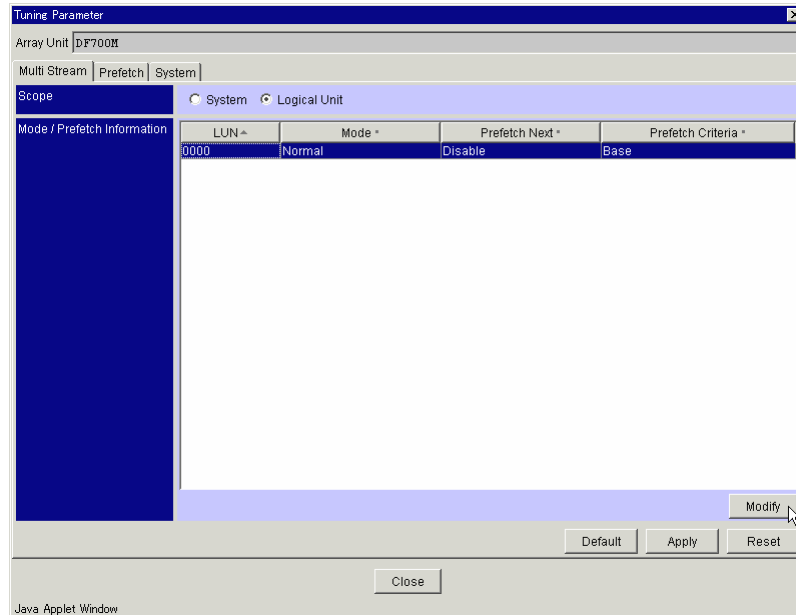

Figure 14.3 Tuning Parameter - Logical Unit
4. Select the **Logical Unit** on the **Scope**. See Figure 14.3.